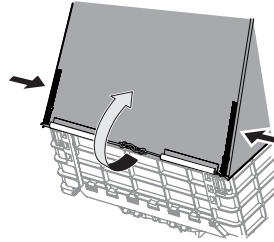

Figure 31
2. Open mesh cover by unzipping the two zippers upwards, and lifting the rear flap of the mesh cover as shown in Figure 31.